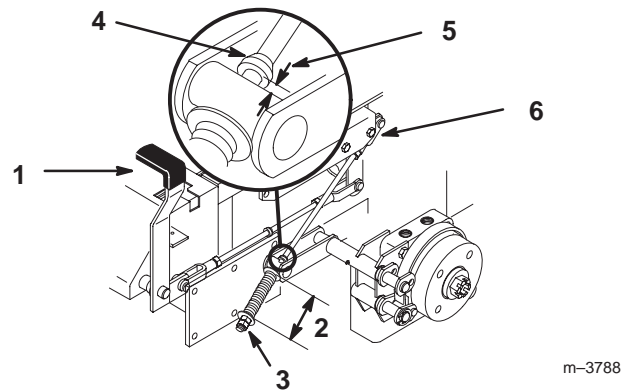

Figure 61
2. Measure the length of the spring. Measurement should be 2.75" (70 mm) between washers (Fig. 61).
3. If adjustment is necessary, loosen the jam nut below the spring and tighten the nut directly below the yoke (Fig. 61). Turn the nut until the correct measurement is obtained. Tighten the two nuts together and repeat on opposite side of unit.
6. Measure the distance between the trunnion roller and the collar on brake rod. Measurement should be 3/16"-1/4" (5-7 mm) (Fig. 61).
7. If adjustment is necessary, loosen the jam nut directly below the yoke. Turn the bottom rod until the correct measurement is obtained (Fig. 61). Tighten jam nut at yoke